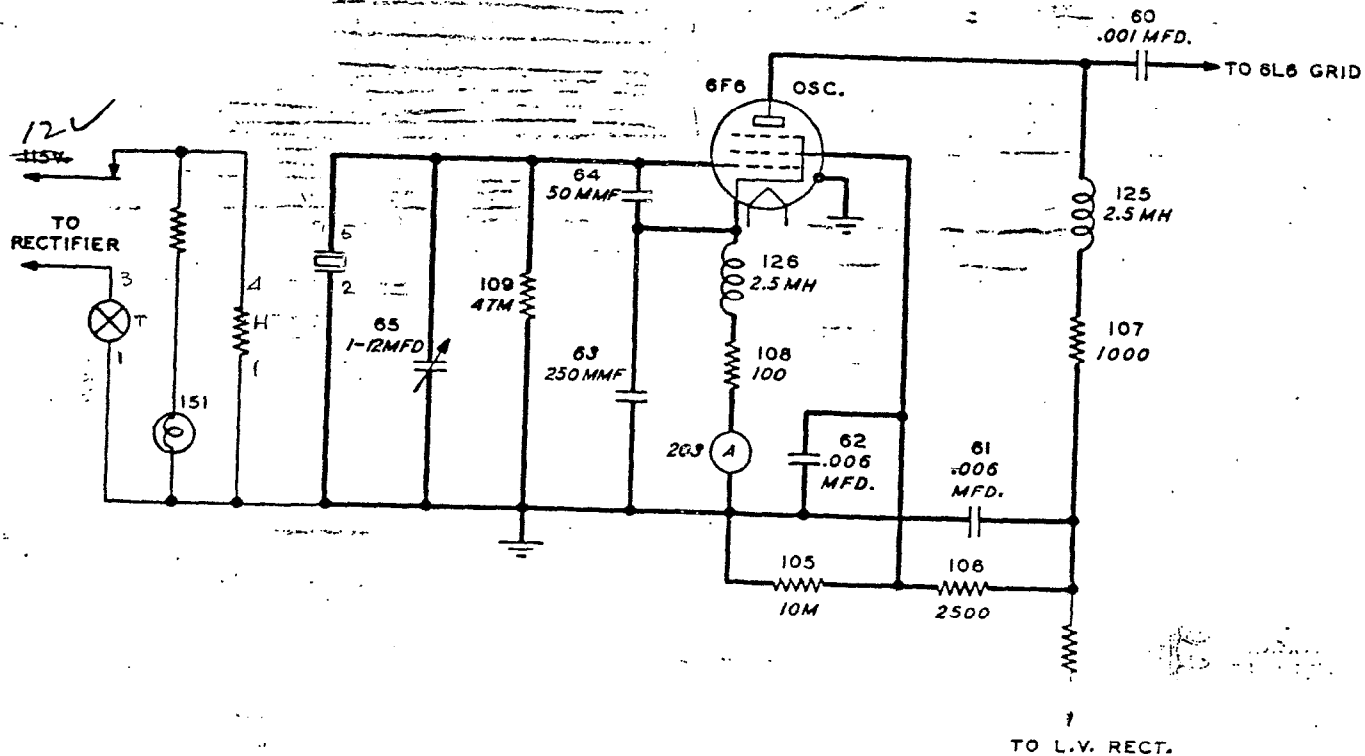

Figure 2-9. Oscillator Schematic
e. RF CIRCUITS. ^{40F-3} (Refer to figure 2-9.)—Two 40F oscillator units are furnished with the 300G